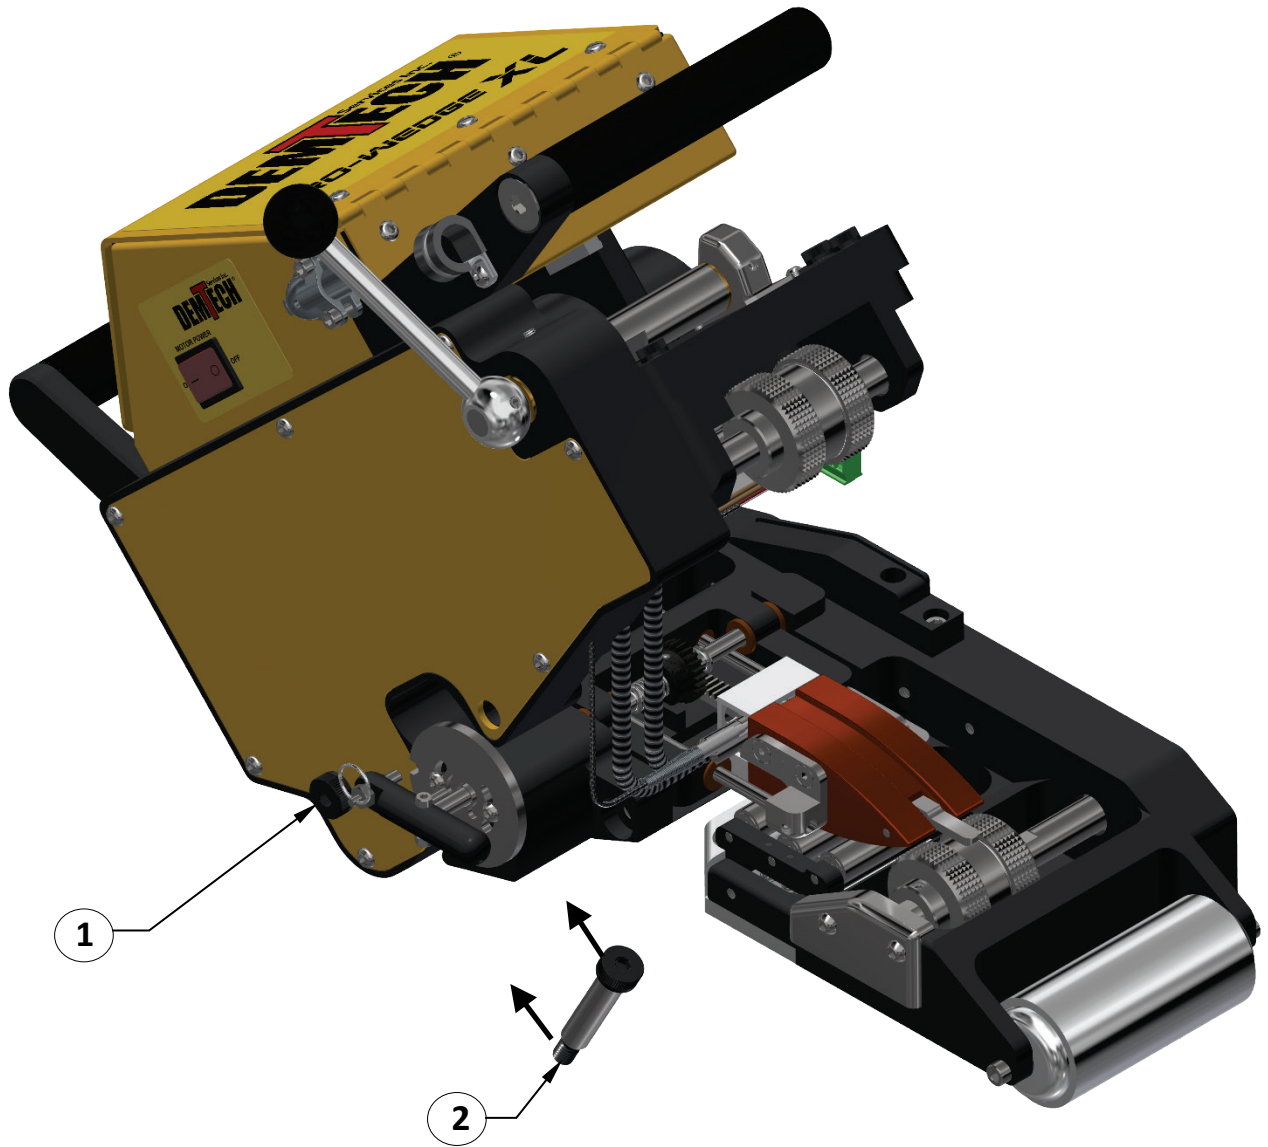

Figure 8
- c. Hinge Side Frame up and install one of the Frame Shoulder Bolts into the front bolt hole to hold the Side Frame in the open position. When the Side Frame is in the correct open position there is a threaded hole into which the Bolt can be installed (1) (see Figure 8).
- e. Pull the Wedge Engagement Handle out far enough to insert the remaining Frame Shoulder Bolt between the Handle and the Lock-In Disc (2) (see Figure 8). This holds the Pinion Gear disengaged from the Wedge Rack so the Heater Assembly Can be removed.